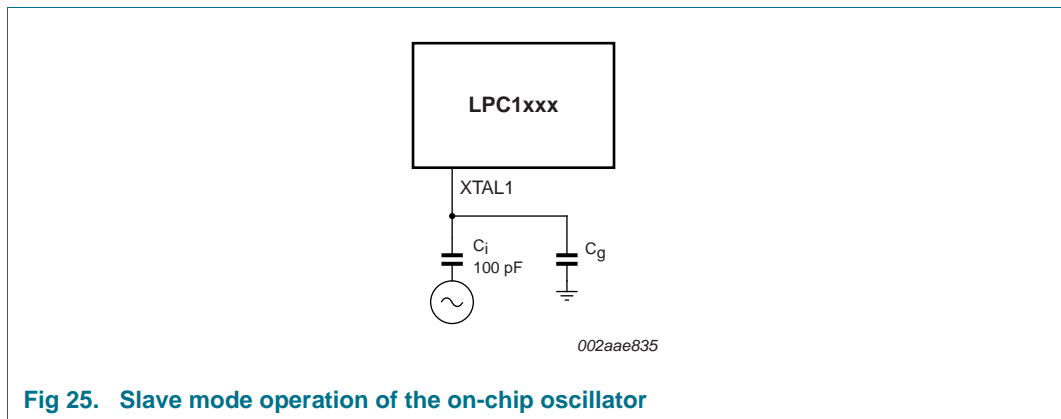

Fig 25. Slave mode operation of the on-chip oscillator
- In slave mode the input clock signal should be coupled by means of a capacitor of 100 pF (C_C in Figure 25), with an amplitude of at least 200 mVrms. The XTAL2 pin in this configuration can be left unconnected.